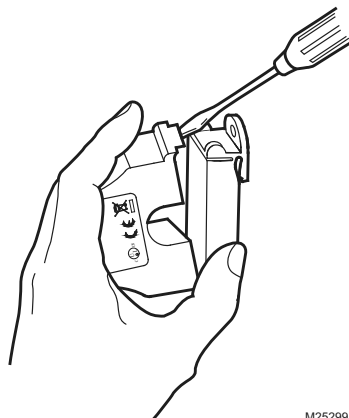

Fig. 8. Opening with a screwdriver
Pressing down on the two (2) side tabs and swinging the cover open opens the split core current switch as shown in Fig. 7. Lifting up the latch with a flat-tip screwdriver as shown in Fig. 8 can also open the unit. Press down firmly on the cover to close the current switch. An audible "click" will be heard as the tab slides over the tongue on the base.